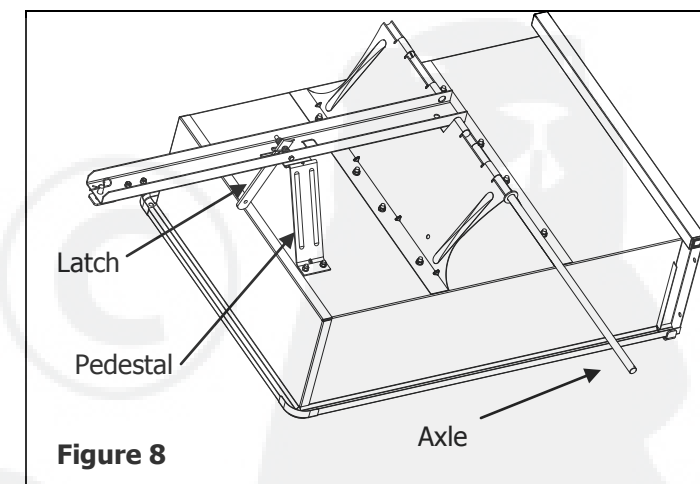

Figure 8
8. Move Body to flat position with Undercarriage and Pedestal face up. Slide Axle halfway through Undercarriage. Place Tow Bar into center slot on Undercarriage, locking latch to Pedestal then slide the Axle through the holes in the Tow Bar then all the way through the Undercarriage. See Figure 8.